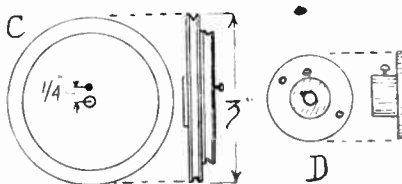

Fig. 3—Details of driving wheel and pulleys
The driving wheel, Fig. 3 (C) consists of a pair of fretwood discs, glued together, and bored through with a $\frac{1}{4}$ in. hole. The smaller disc is 2 1/2ins. diameter and both should be cut with accuracy. A groove on the edges to hold the belt, can be filed round, using a three-cornered file for the purpose.